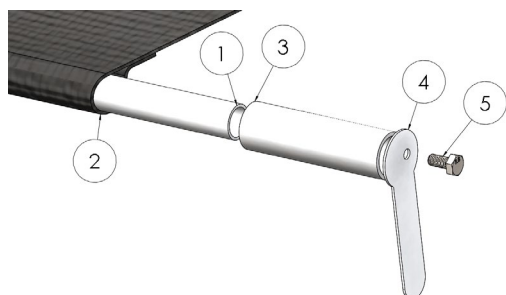

Figure 3.4
Install rear pull bar as shown in Figure 3.4. Slide rear pull bar (1) into end loop on tarp (2). Slide plastic pull bar handles (3) onto each end of rear pull bar. Install metal tarp guides (4) onto each end of plastic pull bar handles using supplied hardware (5).